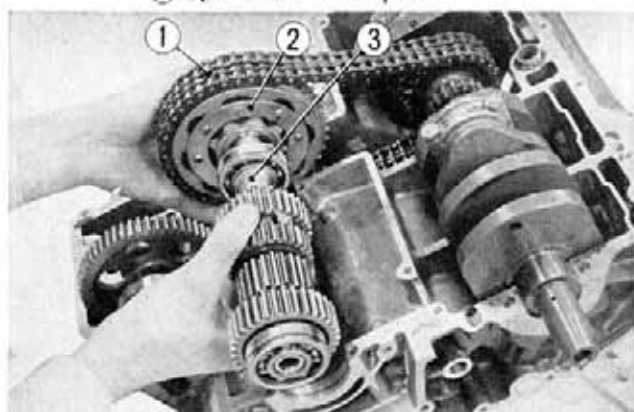

Fig. 3-88 ① Primary chain
4. Raise the transmission mainshaft and remove the primary driven sprocket from the mainshaft and then remove the primary chain from the primary driven sprocket. (Fig. 3-88)